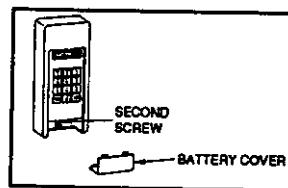

Figure 3
3. Open the battery compartment and remove battery. See Figure 3. Mark the second hole position and drill another 1/8" hole. Secure the Codekey into place with the second screw. Replace and connect battery, and close the case.